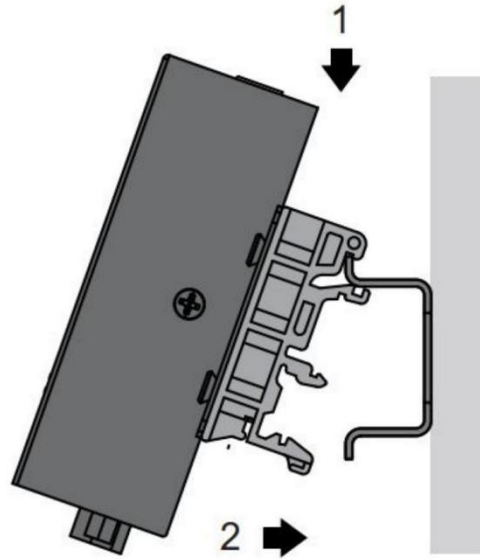

Fig.3 Install DIN-Rail mounting kit
- ✧ Position the rear panel of the device directly in front of the DIN-Rail, making sure that the top of the DIN-Rail clip hooks over the top of the DIN-Rail , as shown in Fig.3.